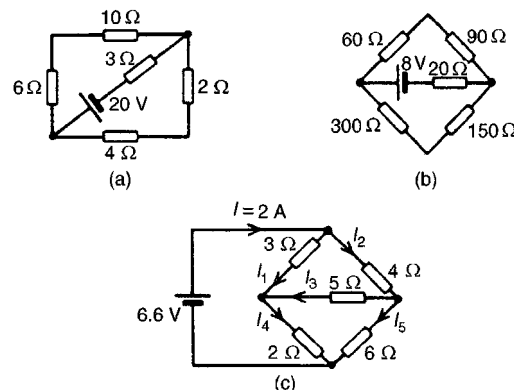

Figure 13.14
- 4 Find the current flowing in the $3\ \Omega$ resistor for the network shown in Fig. 13.14(a). Find also the p.d. across the $10\ \Omega$ and $2\ \Omega$ resistors.
- 5 For the network shown in Fig. 13.14(b) find:
- 6 For the bridge network shown in Fig. 13.14(c), find the currents I_1 to I_5